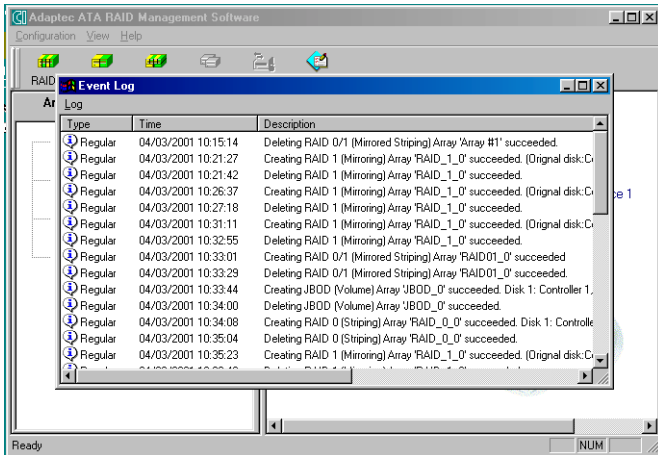

Figure 5-11 Event Log
- 2 From the toolbar, click **Event Log**. You will get a drop-down menu of options. Select **Sort** to organize your search by type, time, or description (see Figure 5-11).